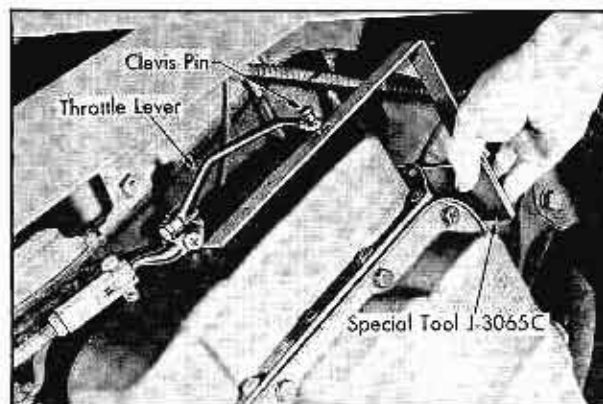

Fig. 14-7 Throttle Lever Checking Gauge
1. Remove transmission throttle control lever clevis pin, and check lever position with Tool No. J-3065-C by fitting tool to rear face of transmission case and inserting clevis pin through lever and proper hole in tool while lever is in its rearward position. Fig. 14-7. If throttle lever is misaligned, bring it into alignment by bending with Tool No. J-2029.